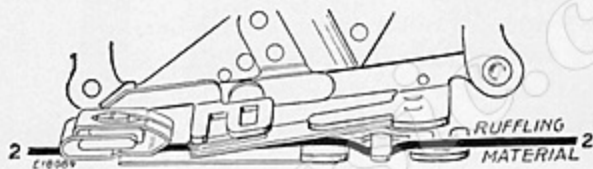

Fig. 85. Correct Position for Material to be Ruffled
- (3) Insert the material to be ruffled between the two blue blades and under the separator guide **Line 2, Fig. 85.**
- (4) Draw the material slightly back of the needle, lower the presser bar and start to sew.
- (5) For fine gathering, turn the adjusting screw C upward and shorten the stitch.
- (6) For full gathering, turn the adjusting screw C downward and lengthen the stitch.